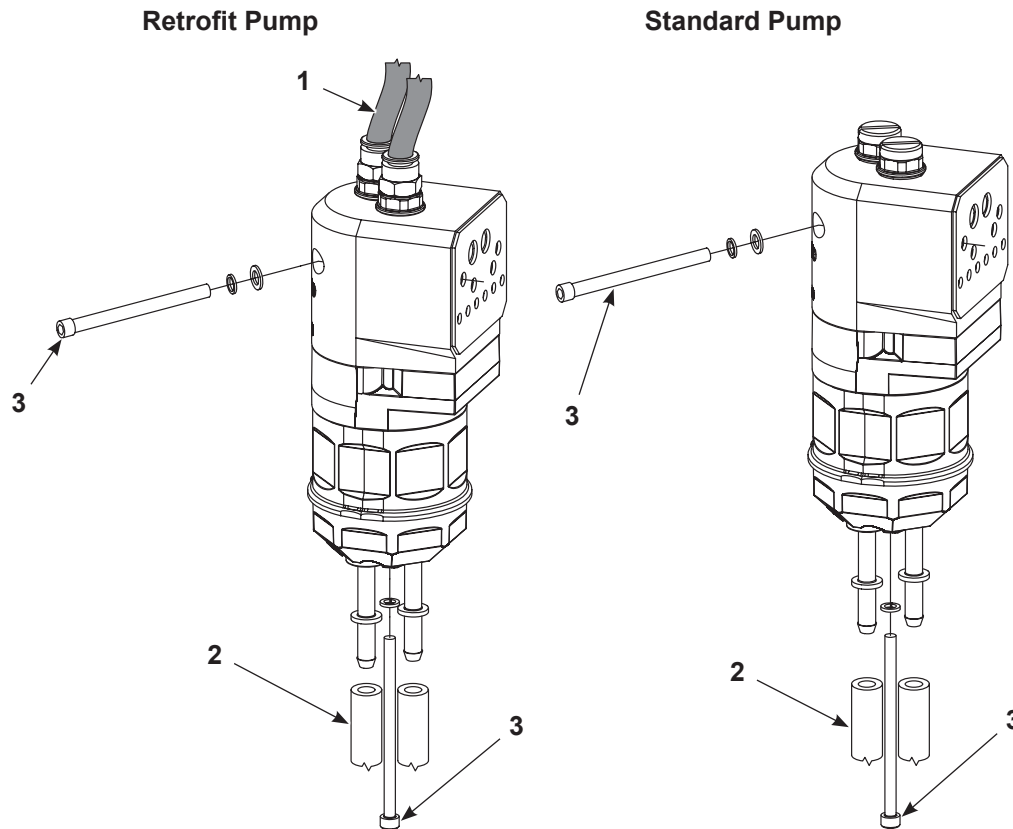
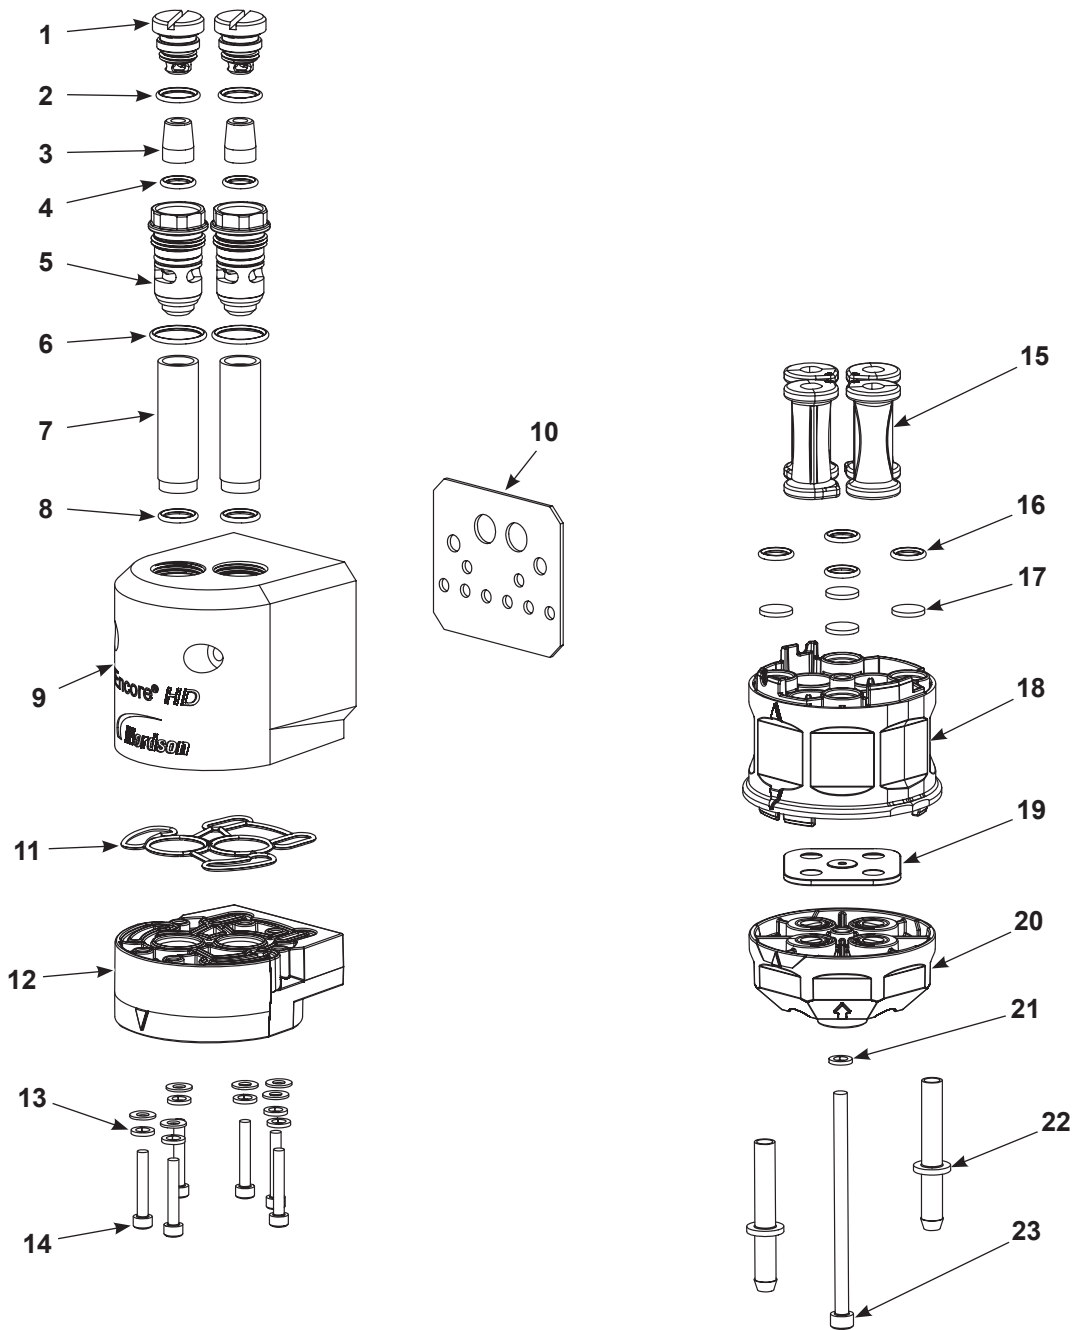

Figure 6-8 Disassembly Preparation
Figure 6-9 Pump Disassembly (Encore HD Shown)
1. See Figure 6-8. Disconnect the purge air lines (1) from the top of the pump.
2. Disconnect the inlet and outlet powder tubing (2) from the bottom of the pump.
3. Remove the two screws, lock washers, and flat washers (3) securing the pump to the pump panel and move the pump to a clean work surface.
4. See Figure 6-9. Starting with the fluidizing tubes, disassemble the pump as shown. Gaskets that are glued on do not need to be removed unless they are damaged. Discard the Y block gasket (19).